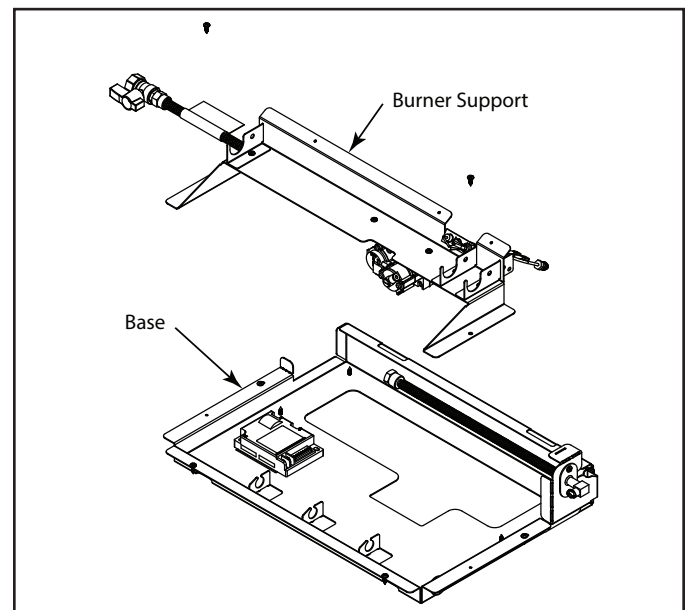

Figure 3
8. Remove (2) screws securing Burner Support to base. Lift support to gain access to bottom valve regulator screw. See Figure 3.